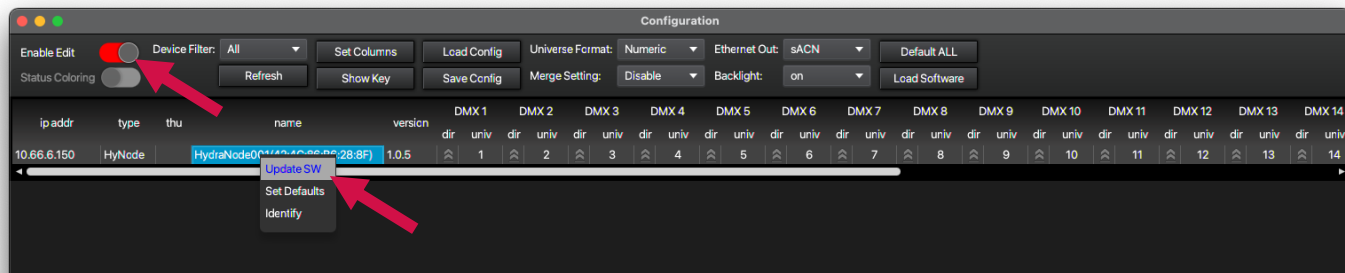

Figure 2 Enable Edit and Update SW
Step 5. Right-click on the device name and select Update SW; see Figure 2.